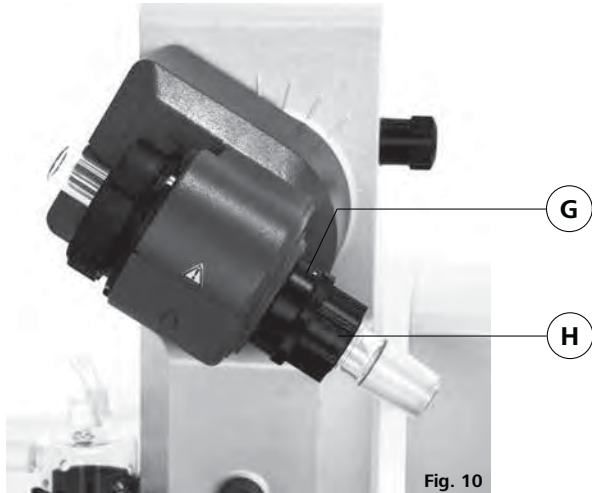

Fig. 10
- ☞ Then lock the locking device by turning it clockwise by 60° (Fig. 10).
The plastic screw nut (H) helps loosen tight-fitting piston ground-in connections (Fig. 10).
- ☞ Hold the locking device (G) and loosen the plastic screw nut (H).
- ☞ To do so, hold the tight-fitting evaporator piston and turn the plastic screw nut (H) until the evaporator piston neck.
*Note: Prior to commissioning, hand-tighten the plastic screw nut (H) left-aligned. This will hold the steam pipe locking device (G) firmly in place.*